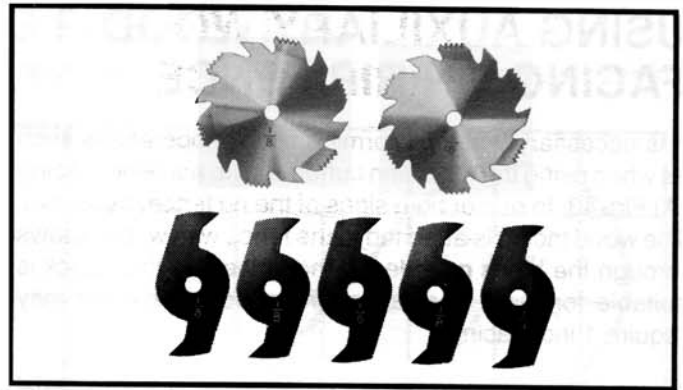
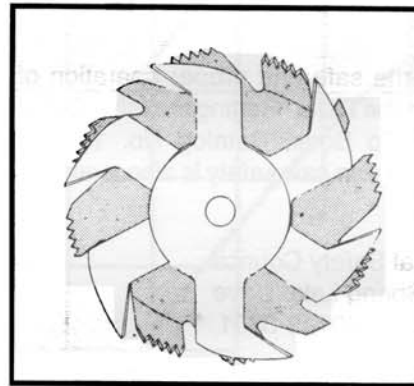
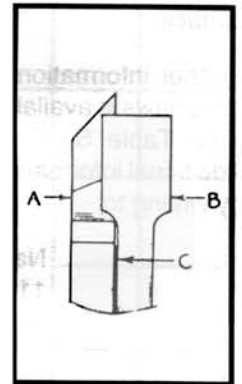

Fig. 38
Fig. 39
Fig. 40
Dadoing is cutting a rabbet or wide groove into the work. Most dado head sets are made up of two outside saws and four or five inside cutters, as shown Fig. 38. Various combinations of saws and cutters are used to cut grooves from 1/8" to 13/16" wide for use in shelving, making joints, tenoning, grooving, etc. The cutters are heavily swaged and must be arranged so that this heavy portion falls in the gullets of the outside saws, as shown in Fig. 39. The saw and cutter overlap is shown in Fig. 40, (A) being the outside saw, (B) an inside cutter, and (C) a paper washer or washers which can be used as needed to control the exact width of groove. A 1/4" groove is cut by using the two outside saws. The teeth of the saws should be positioned so that the raker on one saw is beside the cutting teeth on the other saw.